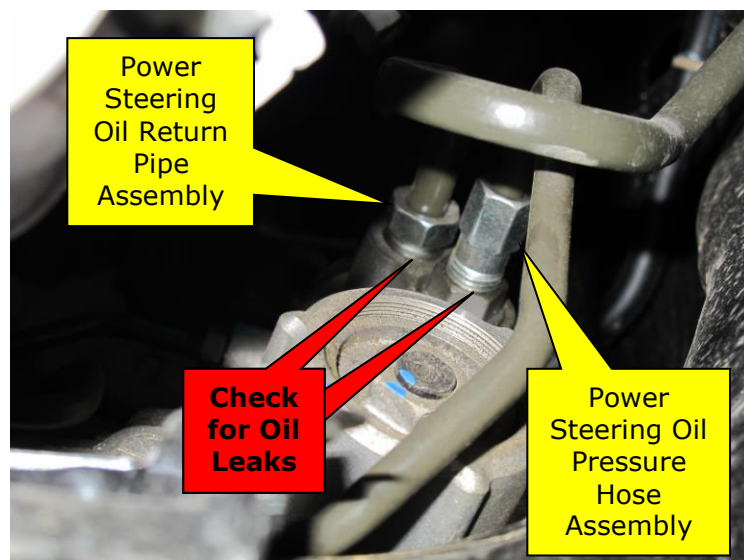

Figure 3
3. Inspect for **LEAKS** between the Steering Gear and Power Steering Oil Return Pipe and Power Steering Oil Pressure Hose connections (Figure 3).